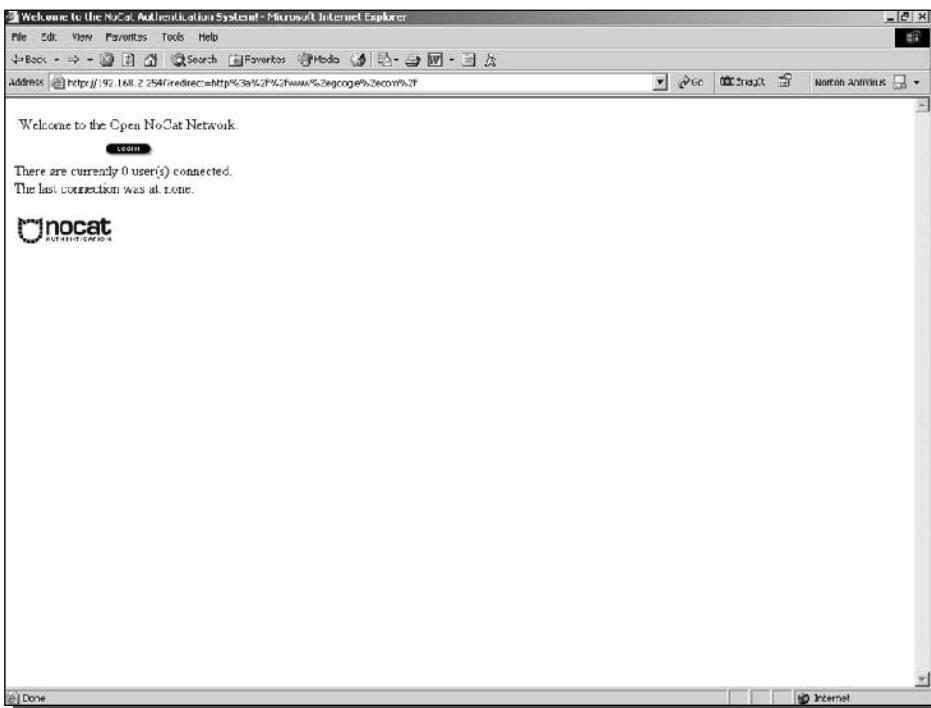

FIGURE 10-7: The NoCat splash screen the first time the gateway is accessed.
3. On the client, type www.google.com in the browser address bar, or attempt to refresh the Google screen, if it is already open. You get the NoCat splash screen, as shown in Figure 10-7. The first time the gateway is accessed, a “none” message will appear. It will be replaced by a date and time after the first login.
4. On the client, type `www.google.com` in the browser address bar, or attempt to refresh the Google screen, if it is already open. You get the NoCat splash screen, as shown in Figure 10-7 or 10-8 (depending on whether this is the first login or a subsequent login). So far, everything is going the same as in Test #6 and Test #7.